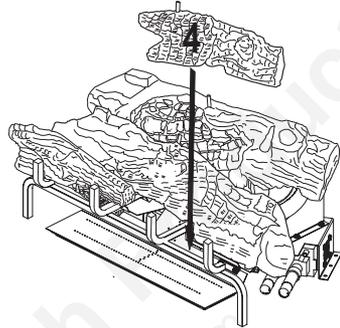

Figure 47 - Installing Log # 4
- Place the front right log (#4) onto the base assembly between the middle log (#2) and the grate. The back of the front right log (#4) will rest against the front of the middle log (#2). The notch in the end of the front right log (#4) will fit around the grate bar. See Figure 47.